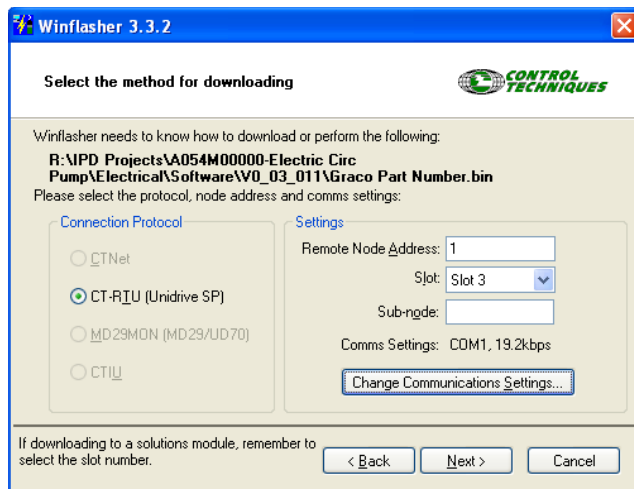

FIG. 7
5. In the Select the method for downloading window, select Slot 3 and click on Change Communication Settings... tab. See FIG. 7.